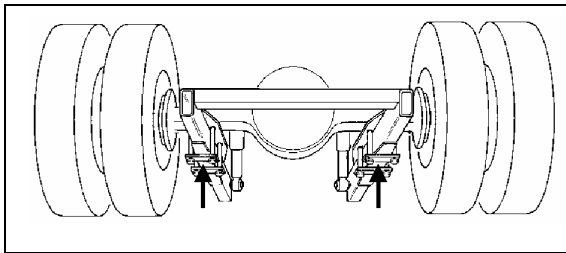

FIGURE 4: JACKING POINTS ON DRIVE AXLE H3B762
8. Install jacks under the axle jacking points to support the axle weight (refer to figure 4).